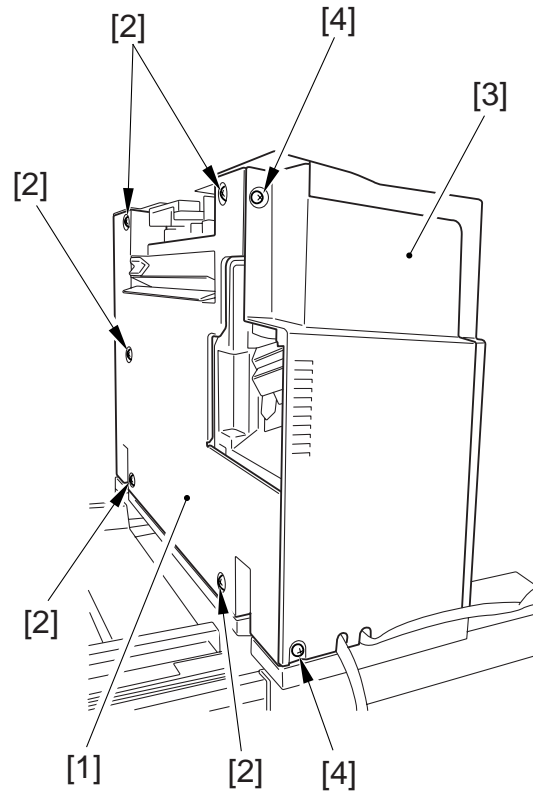

Figure 3-103
- 1) Remove the inside right cover and the rear cover. (Figure 3-103)